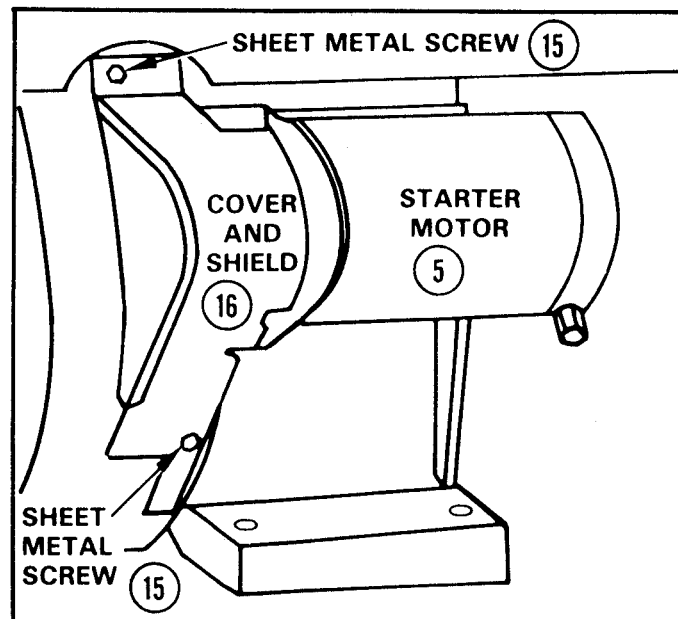

FIGURE 56
3. Fasten Cover-Shield (16) to the engine blower housing with two sheet metal screws (15). See Figure 56.